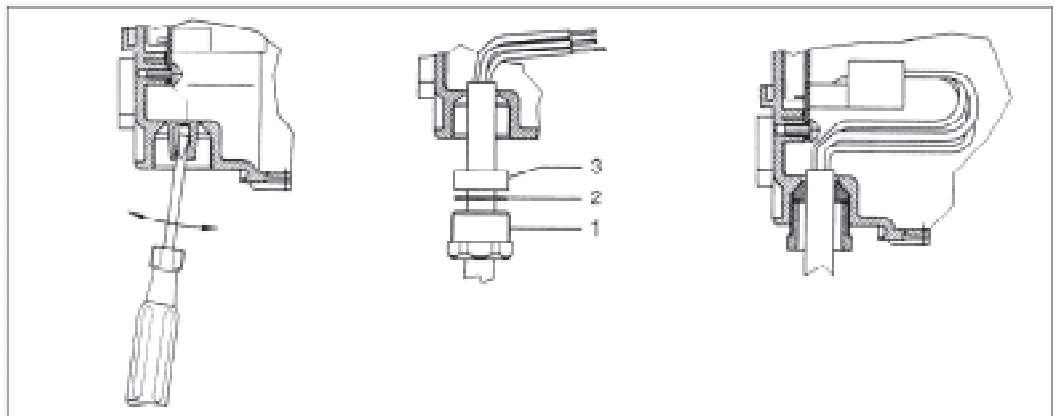

Figure 3: Cable inserts on back row
- ▶ Attach cables on the back row first: (see fig. 3)